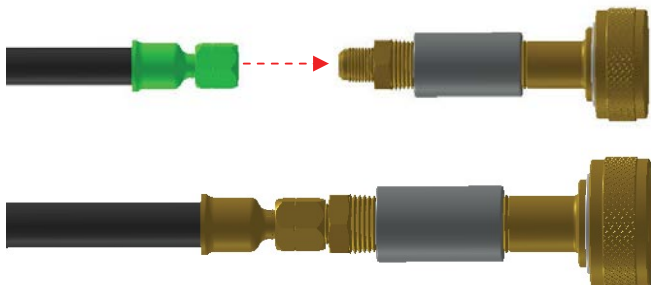

Figure 2
- 2) Connect service evacuation hose to the liquid evacuation adapter. **Torque: Fully Seated Not Stripped, Not Leaking. Figure 2**